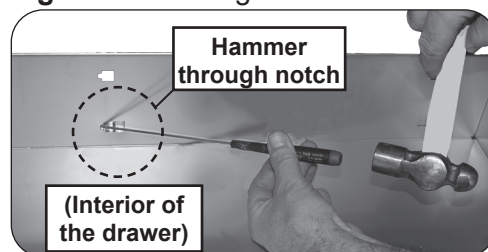

Fig. 4-3 Release tracking from drawer
2. From the interior of the drawer, use a flat head screwdriver and a hammer to tap the runners free (through the notches). See Fig. 4-3.